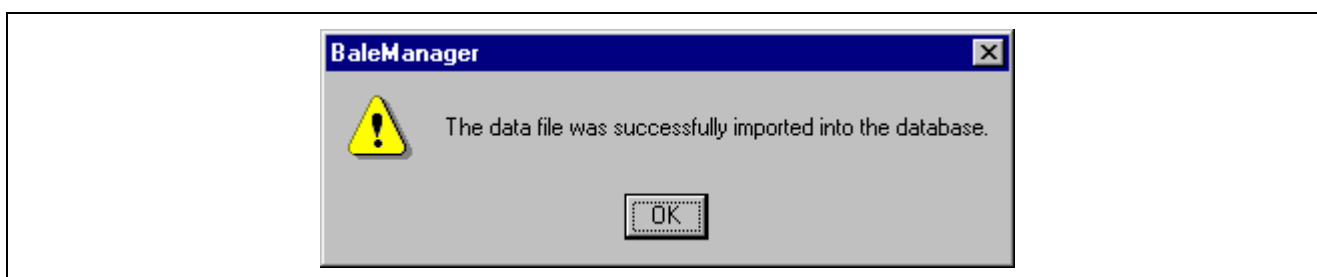

Fig. 6-33 Added Data File Screen
10.4 Select and highlight 41134.DAT then select Import. The data of Lot Identifier 41134 will be imported. The window of Fig. 6-33 will appear. Select OK and repeat steps 10.3 and 10.4 until data of all Lot Identifiers are imported.